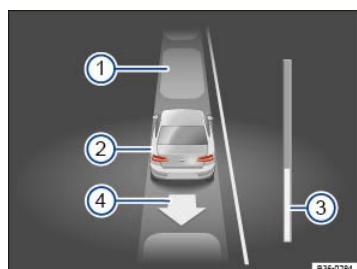

Fig. 158 In the instrument cluster display: Driving out of a parallel parking space.
Key to ⇒ Fig. 158 :
5.	Move the selector lever to Reverse (R). Release the steering wheel when the following message is shown ⇒ ▲ Steer. interv. Check area around veh.! Check the area around the vehicle and carefully depress the accelerator pedal. Do not exceed 4 mph (7 km/h) . The Park Assist system will only operate the steering wheel while driving out of the parking space. The driver controls the accelerator, the brake, and the transmission selector lever.
6.	Reverse the vehicle until there is a continuous tone from the Park Distance Control (PDC) system. OR: Until the prompt to drive forward appears in the instrument cluster display. The progress bar ⇒ Fig. 158 ③ displays the distance left to be traveled ⇒ Progress bar .